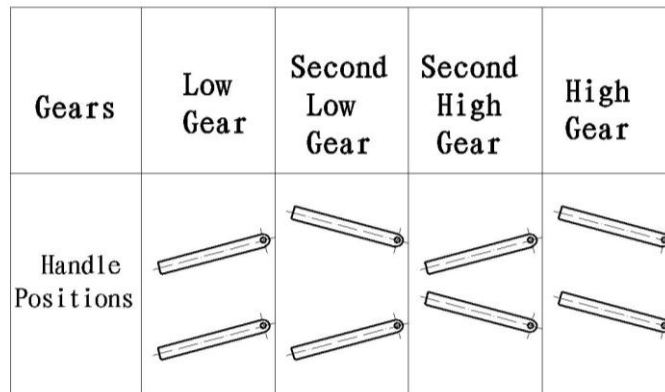

Figure 1
3. Be familiar with the operation of shifting handle (various gears of shifting handle are shown in Figure 1):